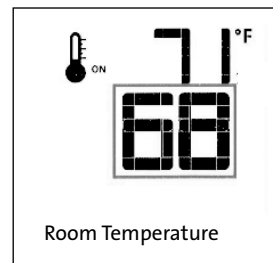

Fig. 8.18. Change Set Temperature.
- To adjust the Set Temperature, press the Up or Down Arrow Keys until the desired Set Temperature is displayed. Fig. 8.18.